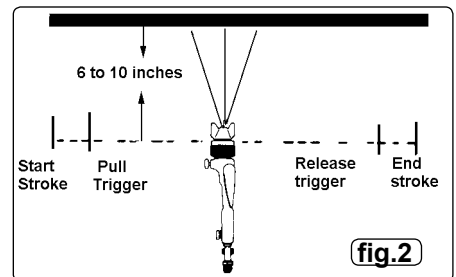

fig.2
- 6.1. **For best results**, handle the gun correctly. It should be held perpendicular to the surface being sprayed and moved parallel to it. Start the stroke before squeezing the trigger and release the trigger before finishing the stroke. This will enable you to accurately control the gun paint (fig.2).